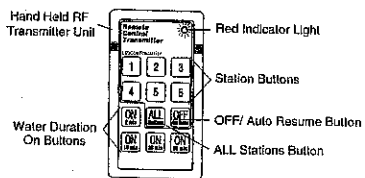

Figure 17: Watering Using Wireless Remote Features
- ◆ Press the desired station button on the Transmitter (number 1, 2, 3, etc.). The Transmitter will beep once, and the red light will turn on [See Figure 17].
- ◆ Press the desired watering duration ON button (choose 2, 10, 30, or 60 minute durations). The Transmitter will beep three times to confirm the command. The Timer's red light will flash several times to acknowledge receipt of the wireless signal [See Figure 17]. During wireless watering, the Timer display will show the active station being watered (an "A" above the station number), show REMOTE, and count down the number of minutes remaining for that station.
- ◆ Press the ALL button on the Transmitter. The Transmitter will beep once, and the red light will turn on [See Figure 17].
- ◆ Press the desired watering duration ON button (choose 2, 10, 30, or 60 minute durations). The Transmitter will beep three times to confirm the command. The Timer's red light will flash several times to acknowledge receipt of the wireless signal [See Figure 17]. During wireless watering, the Timer display will show the active station being watered (an "A" above the station number), show REMOTE, and count down the number of minutes remaining for each station. Note that each station will be activated, regardless of the programming in the Timer.